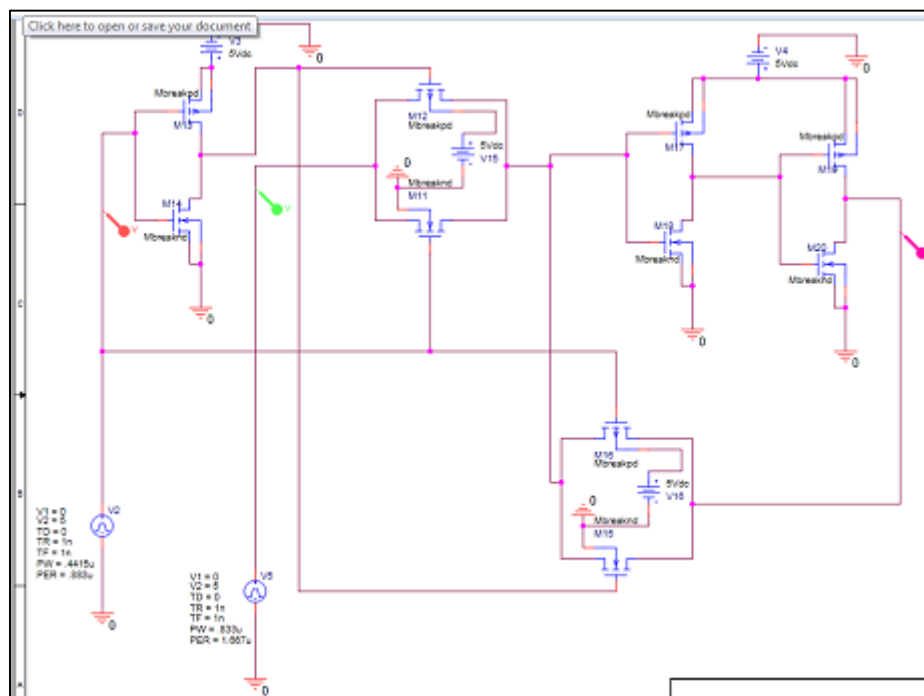

Figure 1 D-Flip-flop
One type of memory that is most used in today's technology is the D-Flip Flop. It is used registers to store data. There is different ways to construct D-Flip Flop, such as using NAND gates or the method we used with Transmission gates (TG) and inverters. Figure 1 shows the connections of two TG with inverters.
You are required to design D-Flip-Flop like the one on figure 1. It consists of TGs and inverters. It has two input signals: clock signal and data signal. Then you are required to test this circuit to make sure that it follows the truth table described in table 1.
- Build the circuit shown in figure 1.